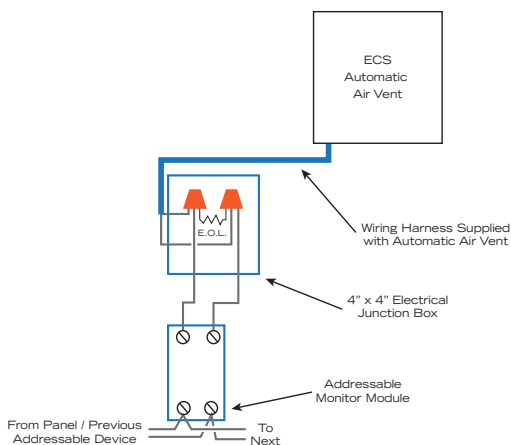

FIGURE 2 - ECS Ejector Automatic Air Vent Outline Drawing
1. The ECS Ejector Automatic Air Vent is equipped with an isolation ball valve to be connected to the fire sprinkler system. Once the PAV-W/WS has been assembled at the provided quick connect (see Figure 2), the contractor must install a 1/2" outlet (welded or mechanical) to connect the vent assembly to the sprinkler system.